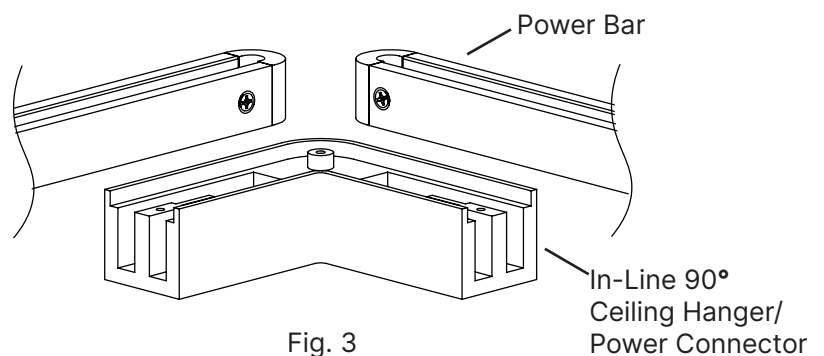
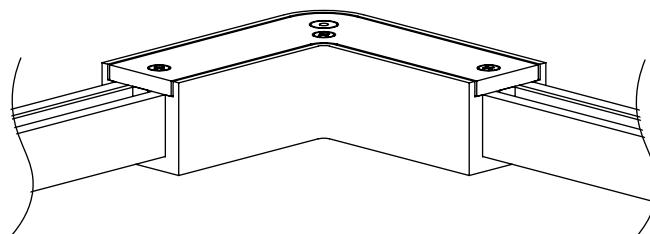

Fig. 3
Fig. 4
4. Align **In-Line 90° Power Bar Connector** with **Power Bar** (Fig. 3) and press down firmly on the top of the Power Bars, while pressing up on the bottom of the Connector until the Power Bars clicks into place. Reattach **Cap** and **Flat Head Screws**. (Fig. 4).
2. Align **In-Line 90° Power Bar Connector** with **Power Bar** (Fig. 3) and press down firmly on the top of the Power Bars, while pressing up on the bottom of the Connector until the Power Bars clicks into place. Reattach **Cap** and **Flat Head Screws**. (Fig. 4).